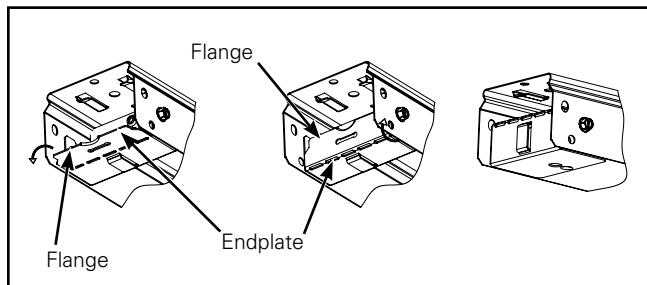

Figure 17.
2. Rotate upper endplate, bend flange as shown and rotate back to its original position in the Channel assembly. (Figure 17.)